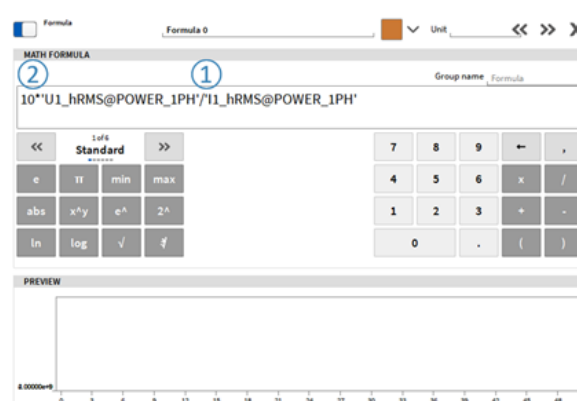

Fig. 7.74: Basic math operations for arrays
- Basic math operations for arrays with same dimensions supported (see ① in Fig. 7.74): + - * /
- Operations (+ - * /) with arrays and constants (see ② in Fig. 7.74)